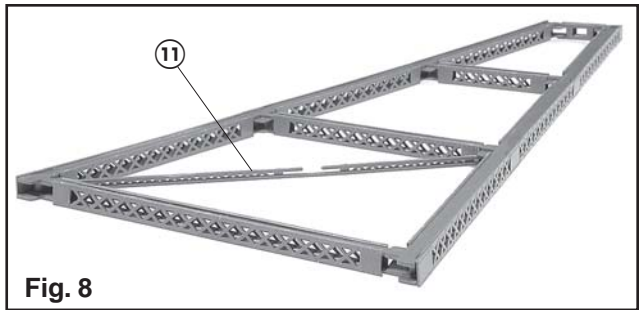

Fig. 8
Position, but do not cement, a bent X-brace, part (11), between the bent gusset plates at the upper right corner and lower left corner of the 3rd story. See fig. 8. Position the bent X-brace with the notch facing up and its lattice straps toward the top of the bent. Align the X-brace at each end with the rows of rivets on the bent gusset plates. Position the second bent X-brace, part (11), in the opposite two corners in the same way but with the notch down. Adjust the position of the two X-braces so their slots are centered on one another. Turn the bent assembly over and adjust the position of each X-brace on the opposite side gusset plates. Once both bent X-braces are positioned correctly, without bow, cement the four ends to the gusset plates on both sides of the bent assembly. Repeat for the 2nd and 1st story X-braces.